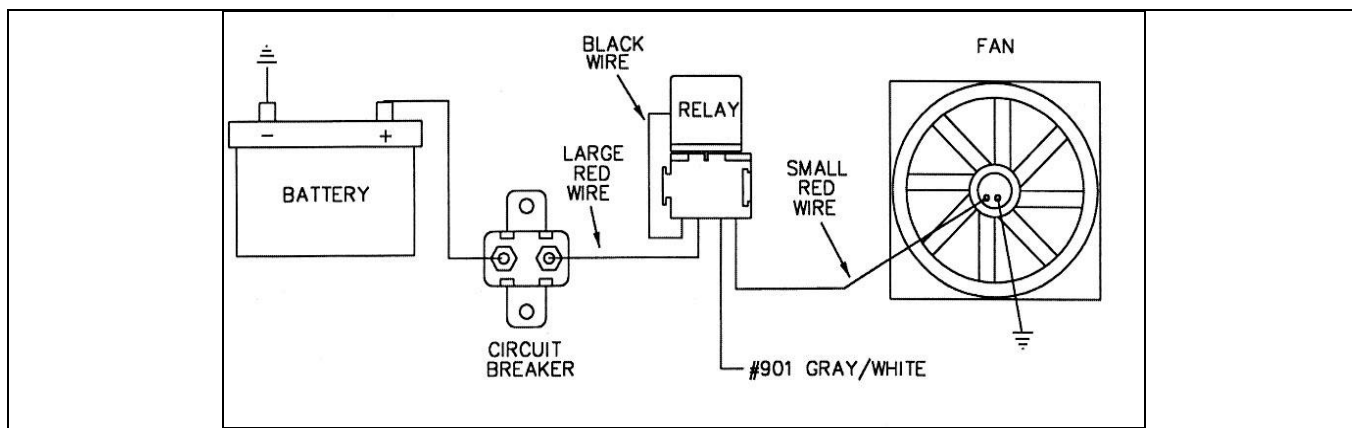

Figure 8-2 Typical Fan Relay Installation (**Painless Part #30101**)
- 8.1.4** Connect HEADLIGHT SECTION A wire #901 (gry/wht) to the Electric Fan Relay. This wire is an activation wire for the relay, **NOT A POWER FEED**. The other end of wire #901 is in the ACCESSORY SECTION SWITCHES and should be connected to the electric fan switch in the dash. Connect 906 (gry/wht) from ACCESSORY SECTION B+ to the other side of the fan switch. **Figure 8-2** shows a typical fan relay installation. **Note:** The wire going to the fan in Figure 10-4B will be coming from the fan relay output terminal. Wire #901 (gry/wht) from the ACCESSORY SECTION SWITCHES is an activation wire for the fan relay.